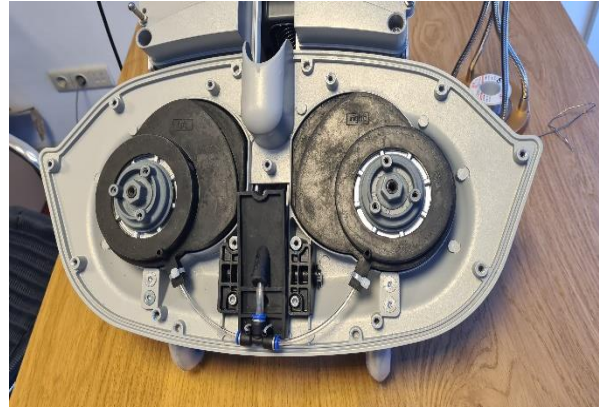

Figure 173
- two counter sunk bolts in Figure 173,